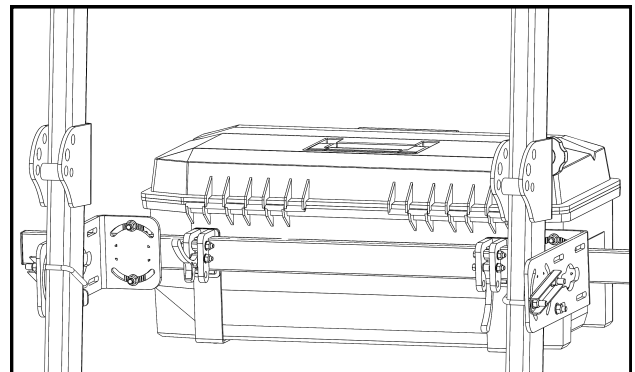

Fig. 1 (example of attaching a tool box)
1. Figure 1 shows an example of a toolbox installed on a *ROPS Mounted Tool Bar*. Installation onto a *UTV Mounted Tool Rack* is the same.